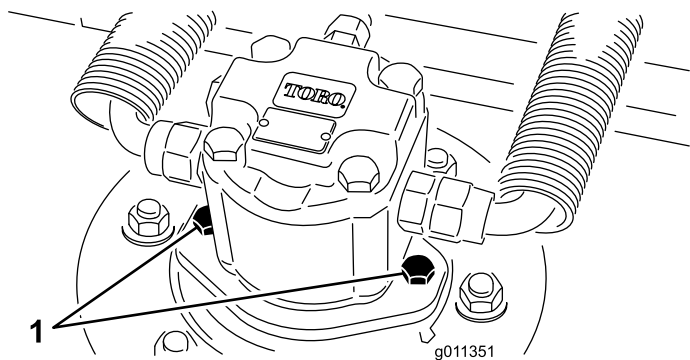

Figure 71
2. Disconnect and remove the hydraulic motor from the cutting unit (Figure 71). Cover the top of the spindle to prevent contamination.
4. Install the hydraulic motor to the deck (Figure 71). Make sure that the O-ring is in position and not damaged.